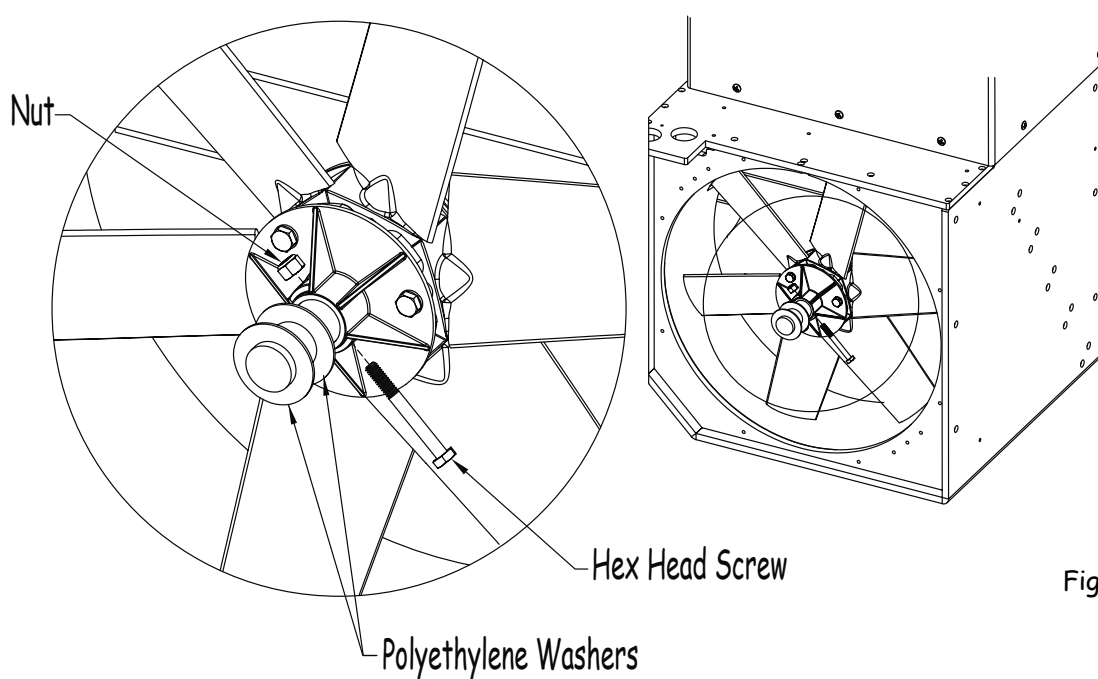

Fig 21
20. Slide the two polyethylene washers off of the propeller shaft. Remove the hex head screw and nut that secures the propeller to the propeller shaft (Fig 21).